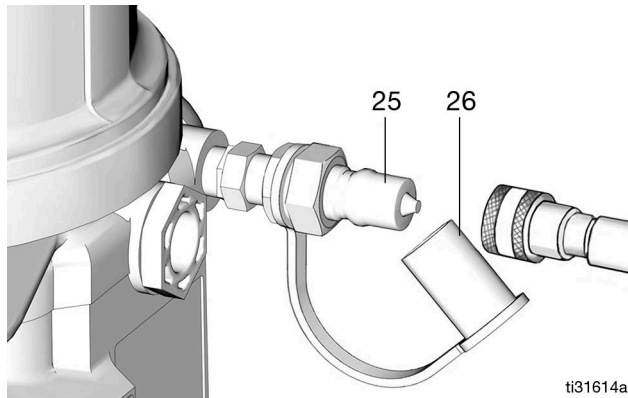

FIG. 26
<ul style="list-style-type: none"> • Always clean inlet fitting (25) (FIG. 26) with a clean dry cloth prior to filling reservoir. Dirt and/or debris can damage pump and/or lubrication system. • Care must be used when filling the reservoir using a pneumatic or electric transfer pump to not pressurize and break the reservoir.
1. Remove dust cap (26) and connect the fill hose to the inlet fitting (25) (FIG. 26).